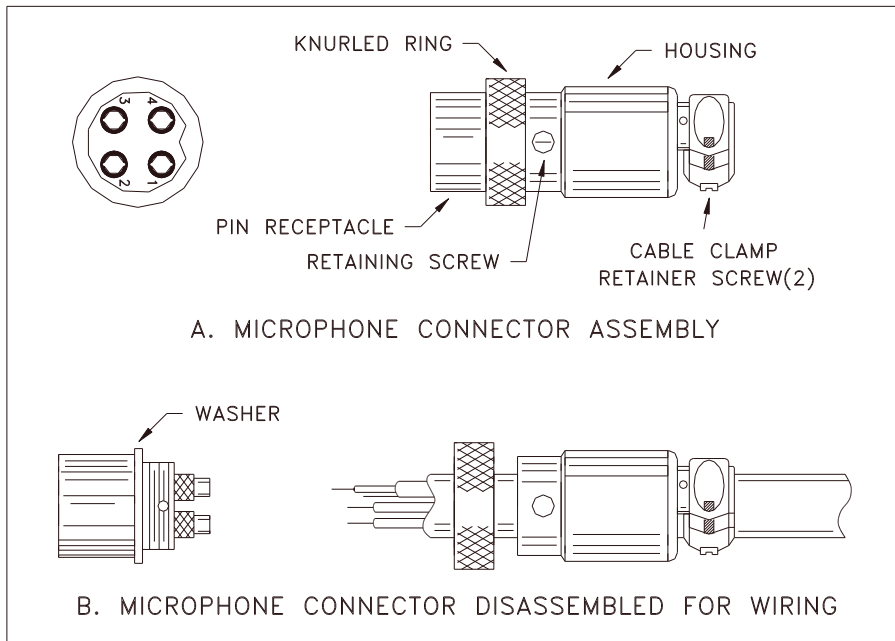

Fig. 2 Microphone plug wiring
4. Feed the microphone cable through the housing, knurled ring and washer as shown Fig. 2.
Be sure that the housing and the knurled ring of Fig. 2 are pushed back onto the microphone cable before starting to solder. If the washer is not captive to the pin receptacle body, make sure that it is placed on the threaded portion of the pin receptacle body before soldering.